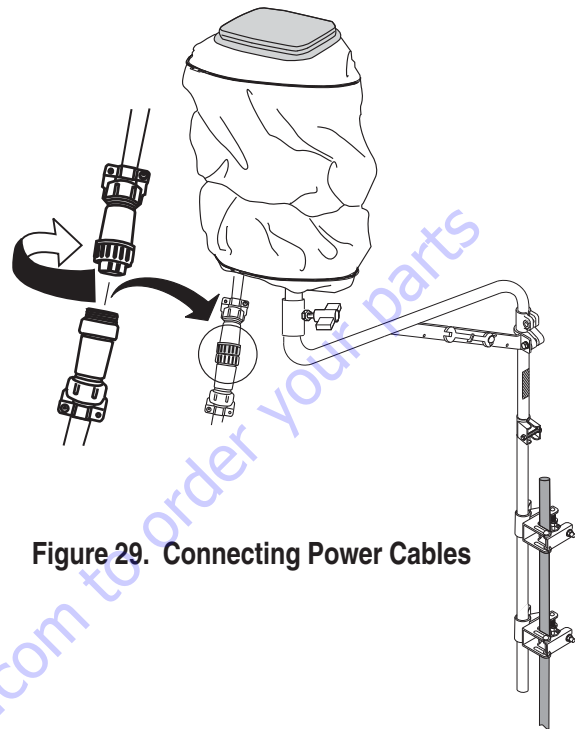

Figure 29. Connecting Power Cables
1. Connect 15 ft. (4.6 meters) AC power cable (Figure 29) to the lamp power cable.